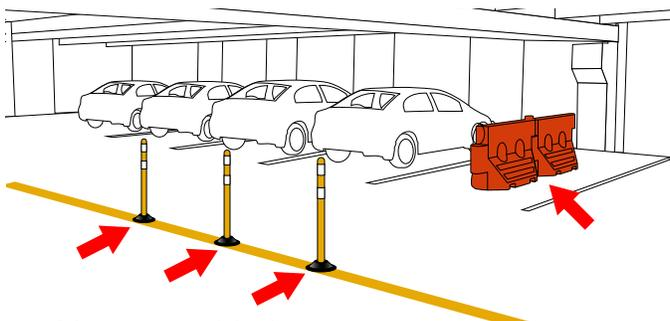

Figure 2-1. Examples of Lane Delineation
- Use physical lane delineation to direct and separate traffic flow at vehicle entrances, exits and all vehicle count transition points within the garage or lot for optimum performance of the system. (refer to Figure 2-1)